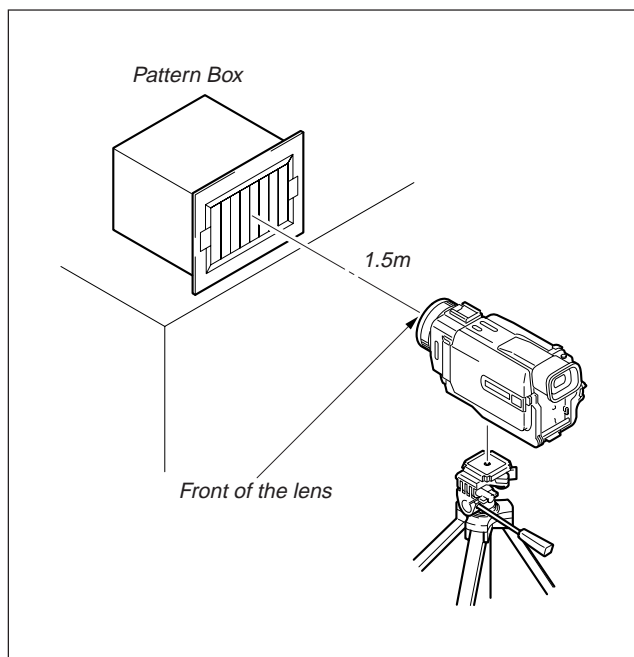

Fig. 5-1-2.
1) Connect the equipment for adjustments according to Fig. 5-1-2.